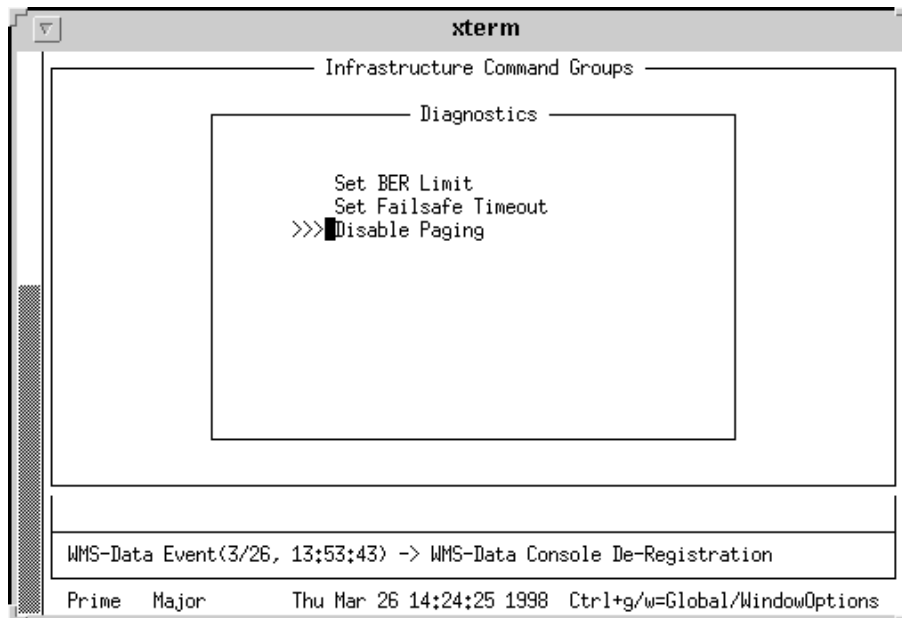

Figure 5-22: Diagnostics Screen—Disable Paging
1. From the Diagnostic menu, use the <tab> to position the cursor to the left of the listing Disable Paging and press: <Return> (see Figure 5-22).